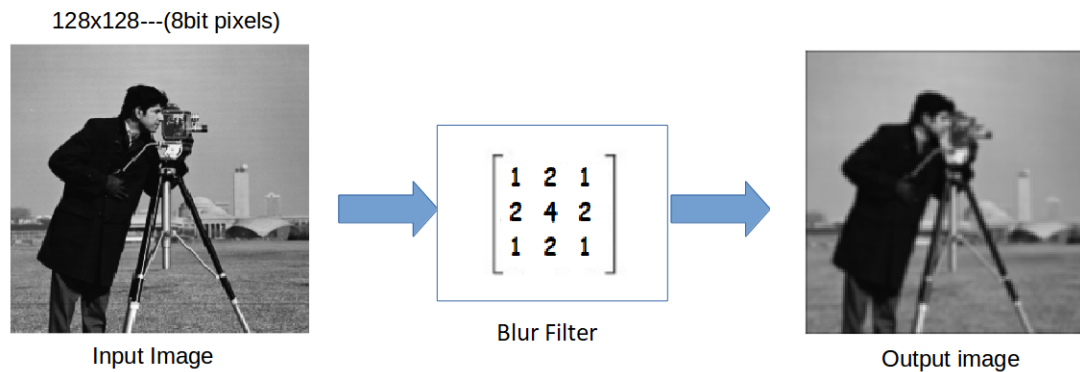

Figure 5: Operation performed by the overall image processing system in this experiment.
- Figure 5 shows the application that is going to be performed on this top module, and it specifies the kernel for convolution to be used. Use these coefficients as inputs for your 2-D convolution module.
- Once the script is ran, you should be seeing the blurred version of the input image, just like at Figure 5.